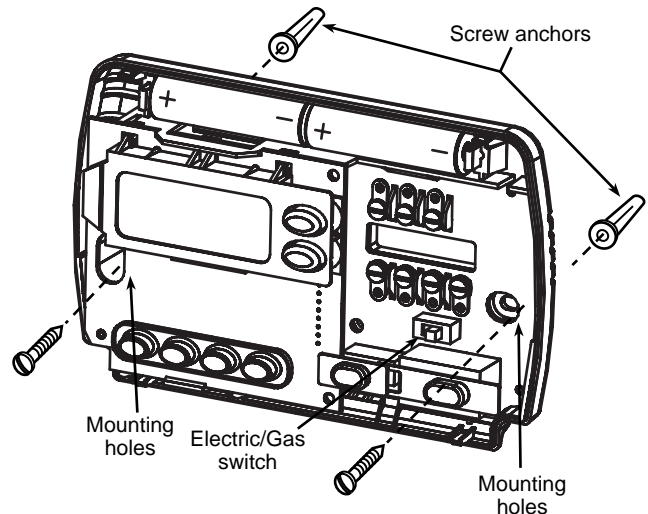

Figure 1. Thermostat Base
This thermostat is configured from the factory to operate a heat/cool, fossil fuel (gas, oil, etc.), forced air system. It is configured correctly for any system that DOES NOT require the thermostat to energize the fan on a call for heat. If your system is an electric heat or heat-pump system that REQUIRES the thermostat to turn on the fan on a call for heat, locate the **GAS/ELECTRIC switch** on the thermostat base (see fig. 1) and switch it to the **ELECTRIC** position. This will allow the thermostat to energize the fan immediately on a call for heat. If you are unsure if the heating/cooling system requires the thermostat to control the fan, contact a qualified heating and air conditioning service person.
5. Fasten base loosely to wall, as shown in fig. 1, using two mounting screws. Place a level against bottom of base, adjust until level, and then tighten screws. (Leveling is for appearance only and will not affect thermostat operation.) If you are using existing mounting holes, or if holes drilled are too large and do not allow you to tighten base snugly, use plastic screw anchors to secure subbase.
If **BATT** is displayed, the batteries are low and should be replaced with fresh "AA" Energizer® alkaline batteries. To replace batteries, install the batteries along the top of the base (see Fig. 1). The batteries must be installed with the positive (+) end to the left.